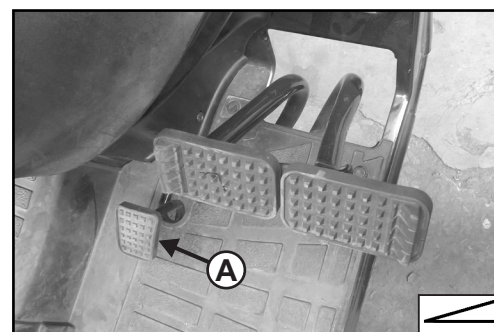

Fig. 4.4
The accelerator pedal (A) Fig. 4.4) can override the setting of hand throttle lever to accelerate the engine.